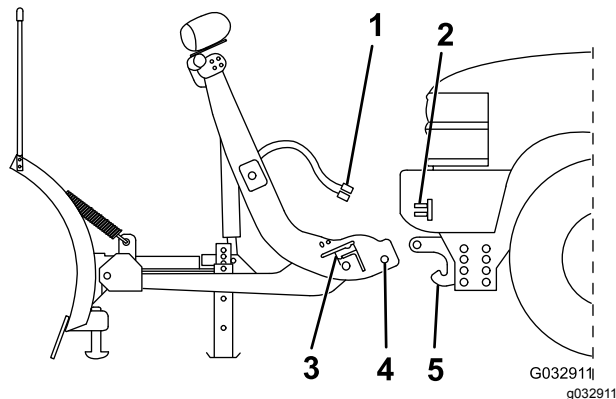

Figure 28
3. Line up the vehicle with the snowplow and drive forward until the lower pin contacts the push-beam pin receiver (Figure 28).
- Remove the electrical-plug dust-covers and connect the plow wire harness to the vehicle wire harness (Figure 28).